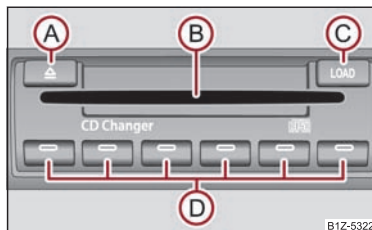

Fig. 128 The CD changer
- Touch the button **(C)** => page 135, fig. 128 and guide the CD (compact disc) into the CD-case **(B)**. The CD is automatically loaded onto the lowest free position in the CD changer. The LED in the corresponding button **(D)** stops flashing.